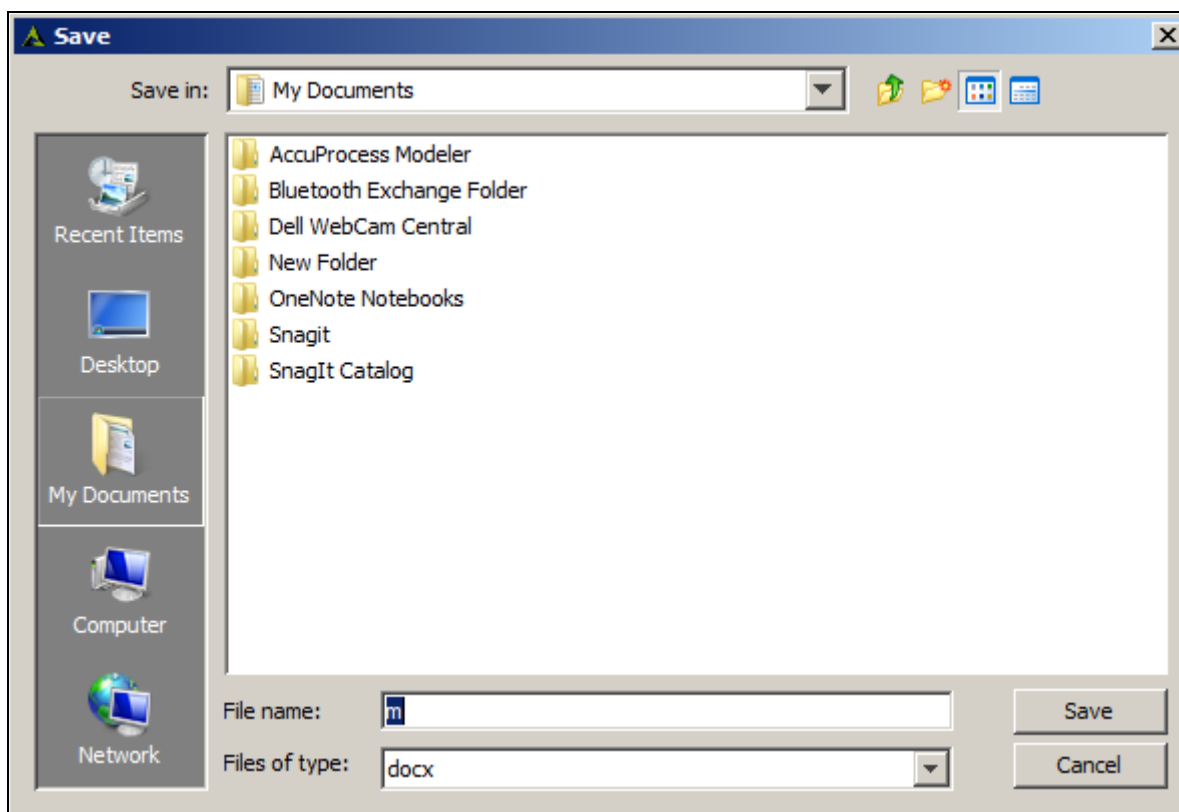

Figure 25: Save Process Model
3. Select the **To WORD** format to export the process model. A dialog box to enter the name and location of the file, to which you want to export the process model, is displayed (see Figure 25).